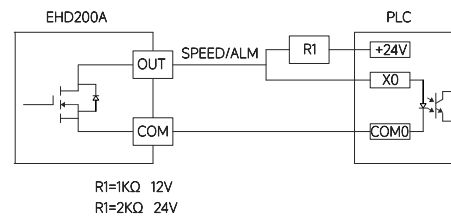

Figure2
- Alarm output (default output mode): When the speed controller doesn't work, the motor will stop working, and the corresponding alarm code will be displayed on the display screen. When the OUT output port is set as alarm output, OUT and COM will be connected at this time, the OUT port is low level --- Figure 2
- Speed output: When the motor is running, it will synchronize with the current motor speed and output the corresponding frequency 1RPM=1HZ (need to contact sales for setting)---Figure 2.